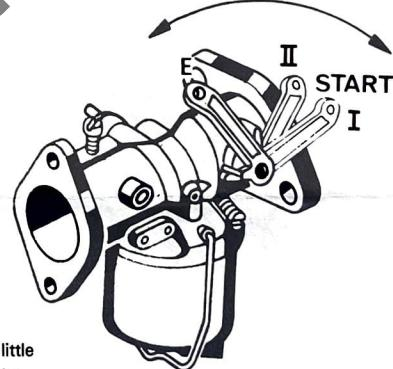

Fig. 2
Put choke lever in start position (Fig. 2)
Put choke lever in start position (Fig. 2). On this carburettor there is a thicker that can be depressed to overflow the float chamber, enabling an easy starting of the cold engine.
Put choke lever on working position (E Fig. 2)
5. After starting of a cold engine, the choke lever should be moved to the working position (E, Fig. 2) as soon as the engine is warm.